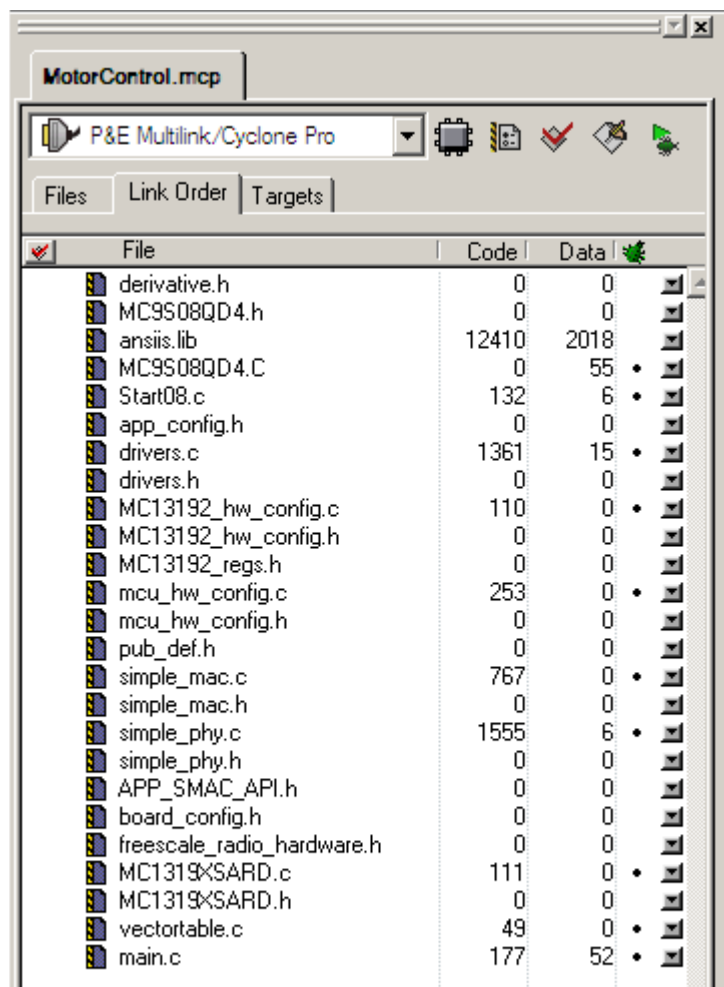

Figure 6. Shows the link order to follow
- To ensure the correct code performance, all files added to the project must be linked in a specific order. The main application file must always be linked last. Figure 6 shows the link order to follow. The main.c file is at the end of the list. This means the main.c file is the last file linked.